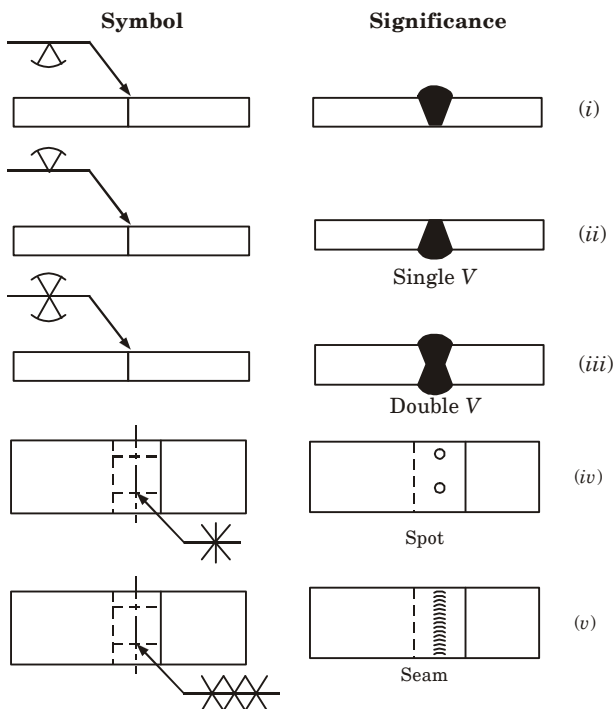

Fig. 12.
- When the weld symbol is below the reference line the weld is made on the same side of the joint as the arrow head, *i.e.*, the arrow side Fig. 12(i).
- ii. When the weld symbol is above the reference line, the weld is made on the other side of the joint opposite the arrow head Fig. 12(ii).
- iii. When the weld symbol is on both sides of the reference line, the welding is to be carried out on both sides of the joint Fig. 12(iii).
- iv. When resistance welds are to be indicated, the arrow shall point towards the centre line along which the welds are to be made Fig. 12(iv) and Fig. 12(v).